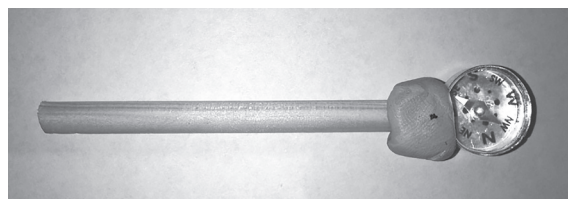

Fig. 2.3
4. A wooden rod of approximate length 10 cm should be attached to the side of the plotting compass using a small piece of Blu Tack as shown in Fig. 2.3.